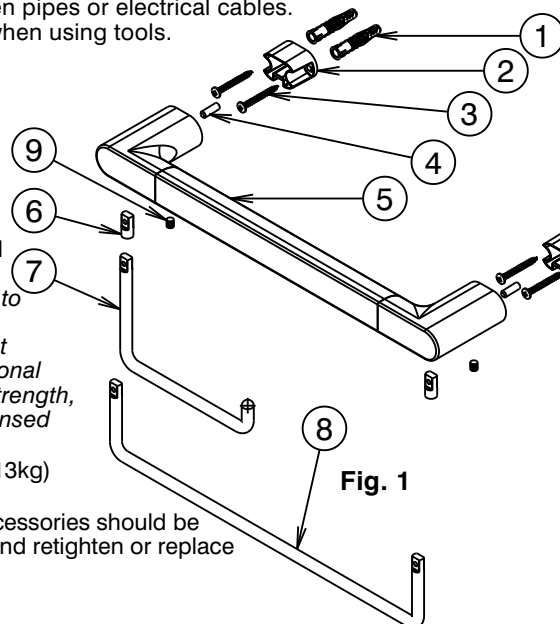

Fig. 1
- 1) Position support rail in desired location against wall or fixing surface. To ensure top surface of support rail is horizontal, then using a pencil, mark mount block (2) position.
- 2) Remove mounting screws (9) to get mount blocks (2), using mount block (2) as a template to drill screw holes.
- 2b) For fixing to brickwork, blockwork or concrete, drill Ø8mm hole 60mm deep. Remove templates. Insert wall plugs (1) into drilled holes. Ensure wall plugs (1) are flush with wall.
- 3) Using screws (3) to attach the mount blocks (2) securely to the wall.
- 4) If toilet roll (7) is required, loose screw (4) from back of post to remove insert (6), insert toilet roll holder (7) into support rail (5) from insert hole as shown in Fig. 1, then tighten screw (4) firmly.
- 5) For support rail 400mm, if towel rail is required, loosen screws (4) from back of post to remove inserts (6), insert towel rail (8) into support rail (5) from insert hole as shown in Fig. 1, then tighten screws (4) firmly.